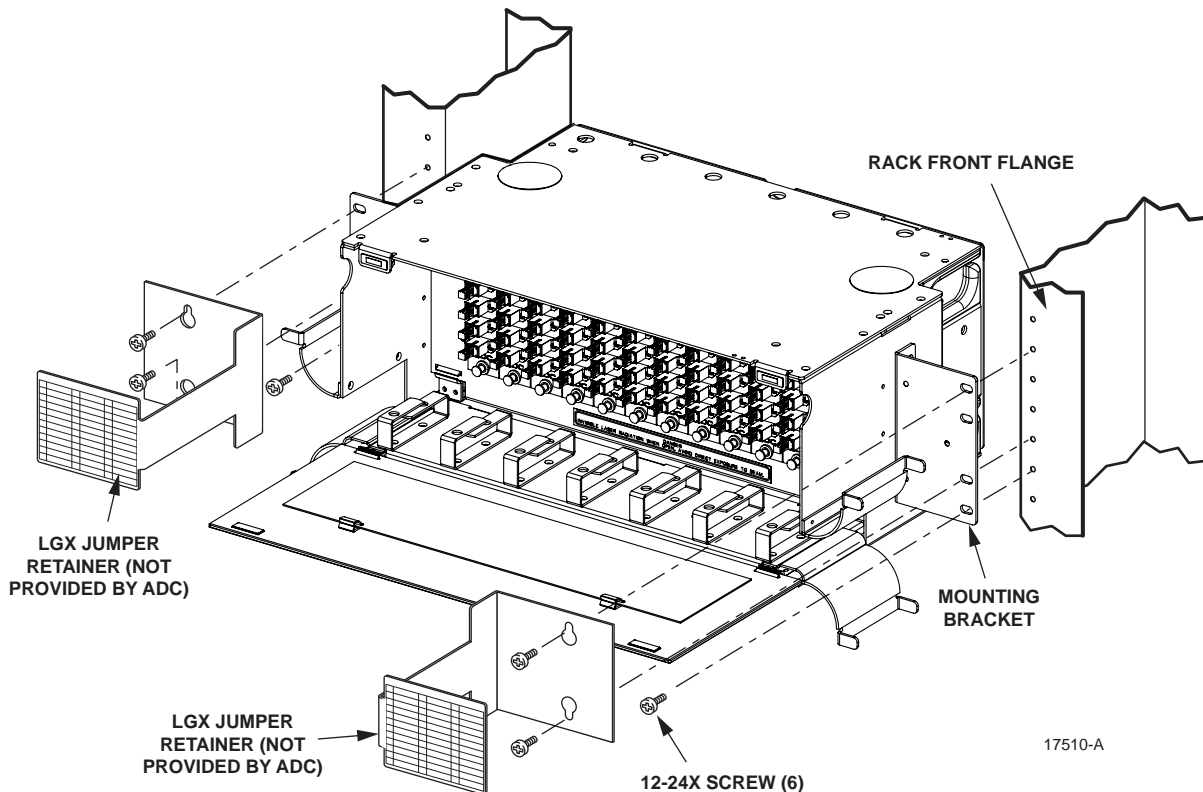

Figure 8. Installing the Connector Module (23-Inch Rack Shown)
2. Secure the mounting brackets to the rack front flange using six #12-24 mounting screws, as shown in Figure 8.
► **Note:** If LGX jumper retainers are being used, remove them and reinstall them with the chassis as shown in Figure 8. The jumper retainers are not an CommScope product.